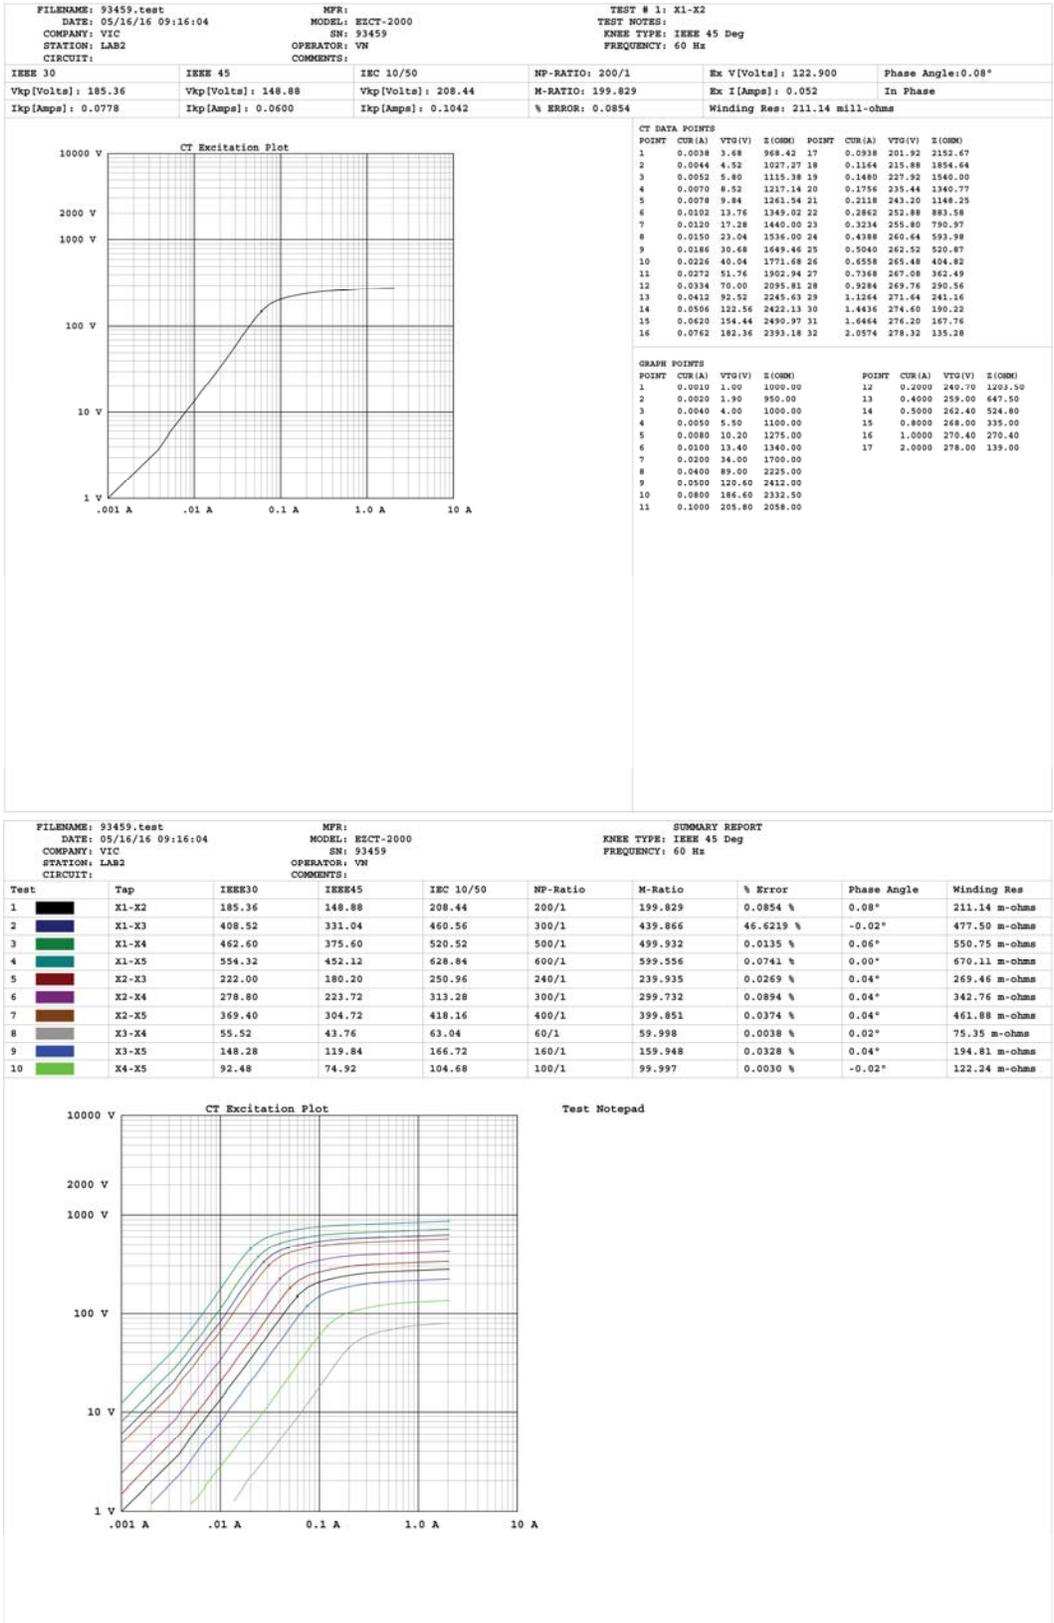

Figure 4. Typical Test Record Printouts (Landscape format)
Click on the "OK" button. A new "Pass / Fail Report" page will be added to the report. It will be the second to the last page (See Figure 4). Press the **[Page Down]** key until the "Pass/Fail Report" is displayed. You will notice that in the columns that list the knee point voltage, percent
2. Select the printer to print to and make any necessary changes to the printer's parameters and then click on the "OK" button. The test results will be printed. Sample test record printouts are shown in Figure 4.